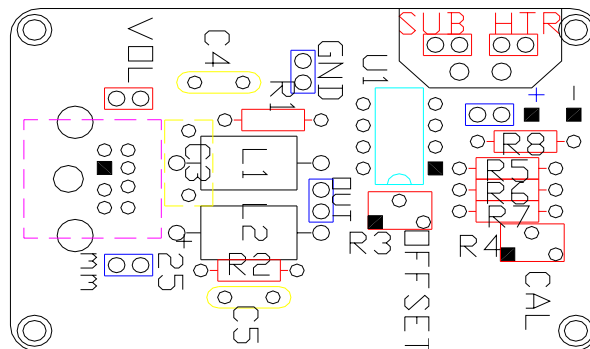

Figure 5
- A. Remove the screws holding the calorimeter's ID tag and remove the plate to expose the circuit board as shown in Figure 5.
- E. Remove the screws holding the interface module's ID tag and remove the plate to expose the circuit board. Refer to Figure 5.
- A. Connect a DVM to the white jacks of the calorimeter. Refer to Figure 5.